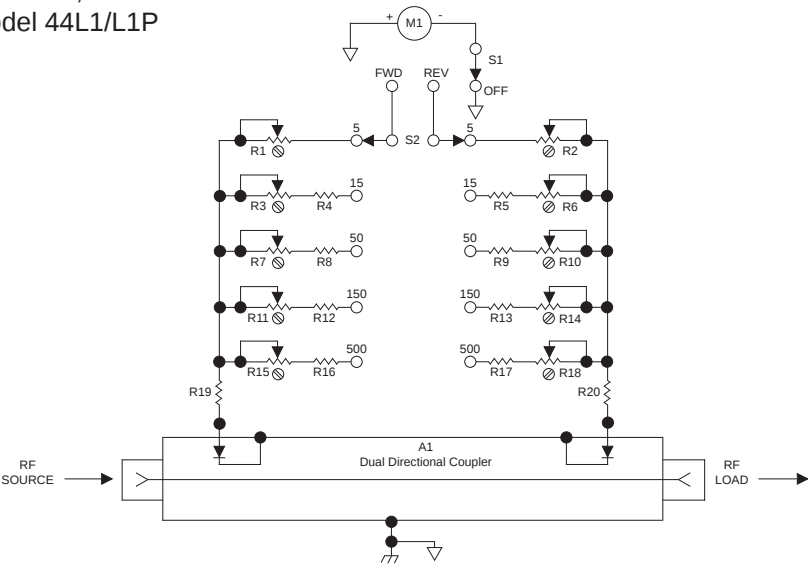

Figure 3-1: Model 44L1/L1P RF Wattmeter Schematic
- 4.01** The Model 44L1/L1P Wattmeter is made up of two major sections. Refer to the schematic diagram in Figure 3-1 for this description.